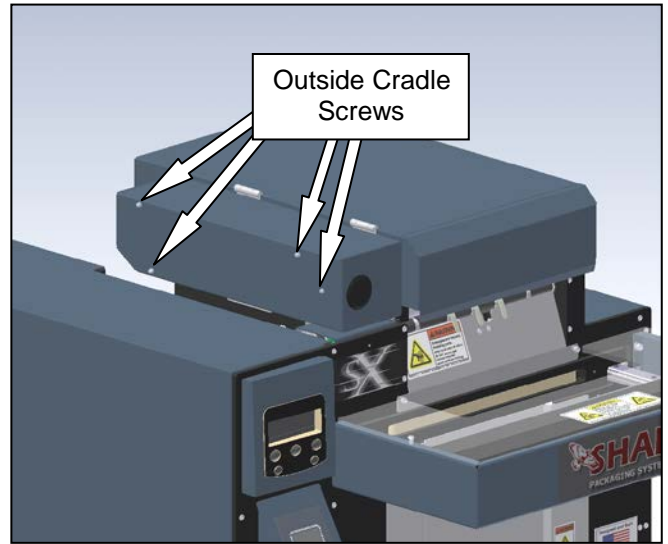

Figure 2-11. Removing the Outside Cradle Cover
5. Remove the four screws that hold the outside cradle cover (Figure 2-11). Slide the cover off to expose the ribbon rewind hub drive and the printhead lift drive.